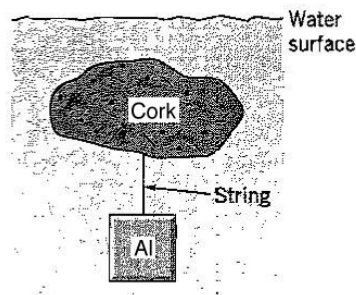

Figure P2.65
- 2.65** A 1 m^3 of aluminum, of specific gravity 2.7, is tied to a piece of cork, of specific gravity 0.24, as shown in Figure P2.65. What volume of cork is required to keep the aluminum block from sinking in water if both masses are completely submerged?